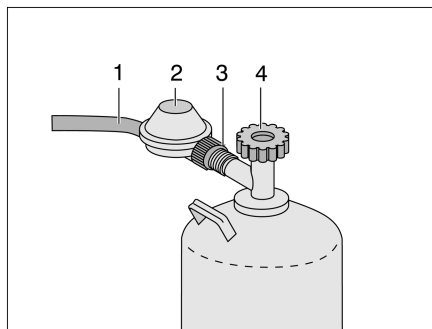

Fig. 239 Gas bottle connection
- Close the regulator tap (Fig. 239,4) on the gas bottle. Pay attention to the direction of the arrow.
- Hold the gas pressure regulator (Fig. 239,2) and open the knurled nut (Fig. 239,3) (left-handed thread).
- Remove the gas pressure regulator and the gas tube (Fig. 239,1) from the gas bottle.
- Position the gas pressure regulator (Fig. 239,2) and the gas tube (Fig. 239,1) on the gas bottle and tighten the knurled nut (Fig. 239,3) by hand (left-handed thread).